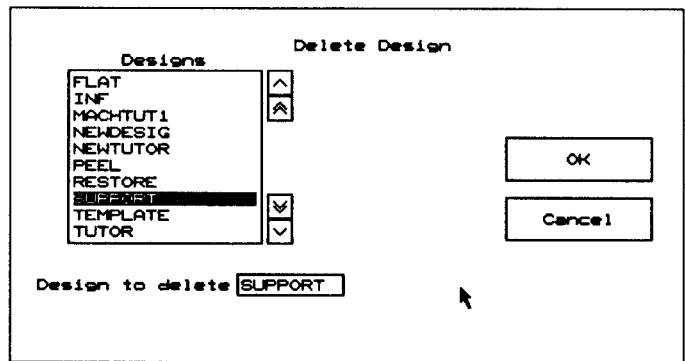

Figure 2-14. *Delete Design* window.
1. Select **Delete Design**. The window shown in figure 2-14 displays.